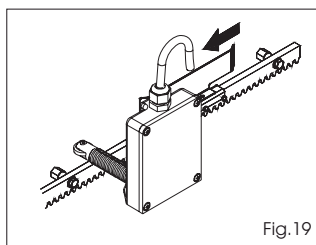

Fig.19
- 6) Repeat the operations at points 4 and 5 for the closing limit switch, Fig. 19.